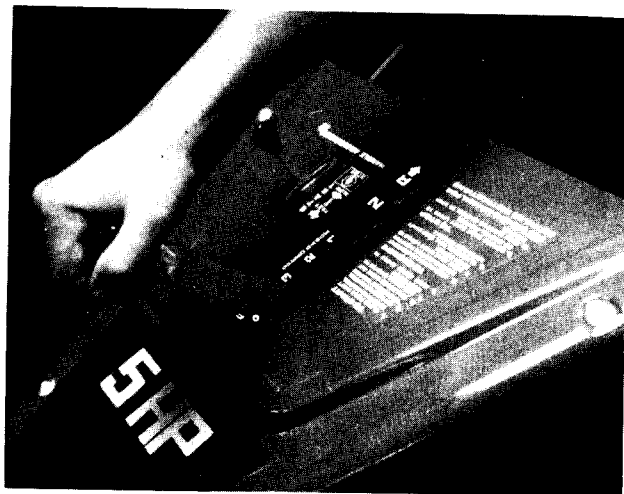

FIGURE 21.
A. Forward (1 thru 5)—Move the lever to the left and forward for each gear. See figure 21.